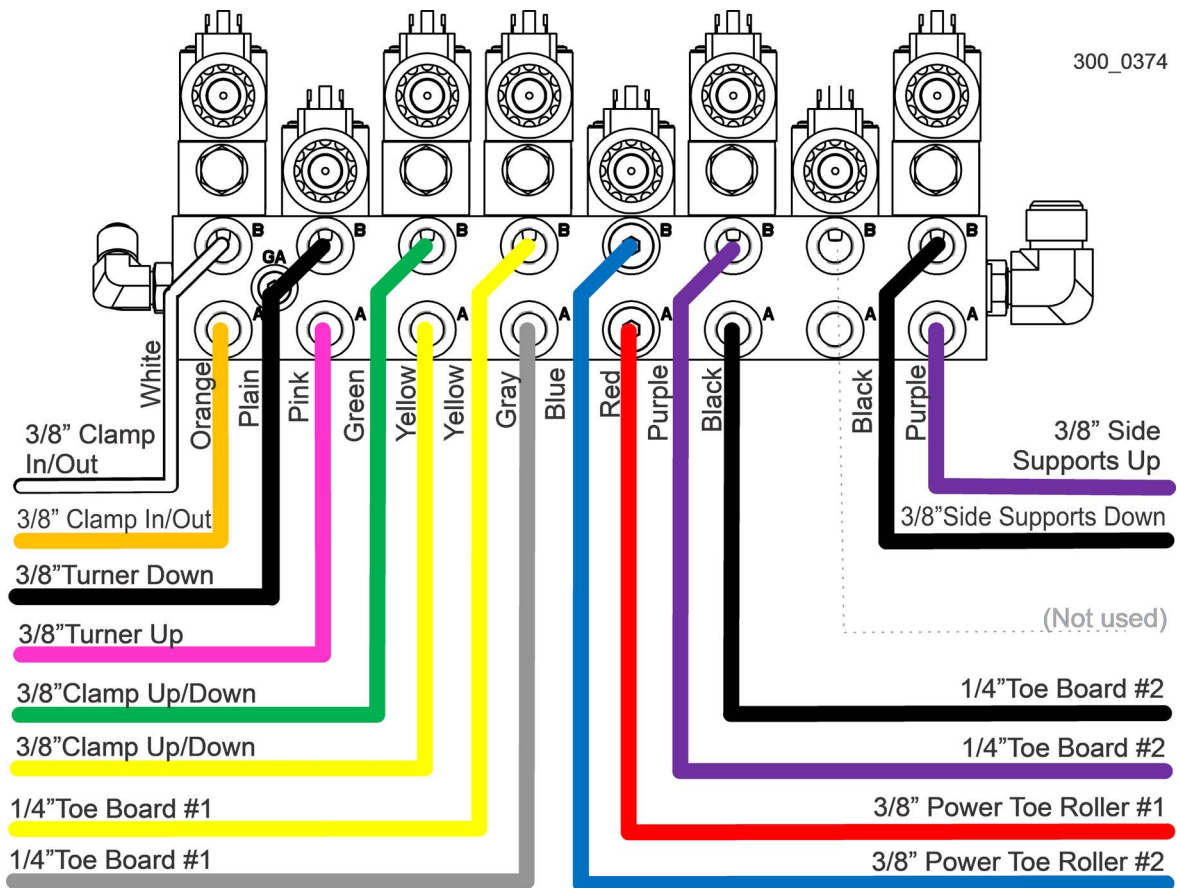

FIG. 3-27
6. Remove the plugs from the turner down flow divider located on to the operator station leg. **See Fig. 3-27.**
8. Connect the hoses to the fittings on the turner down flow divider. **See Fig. 3-27.**